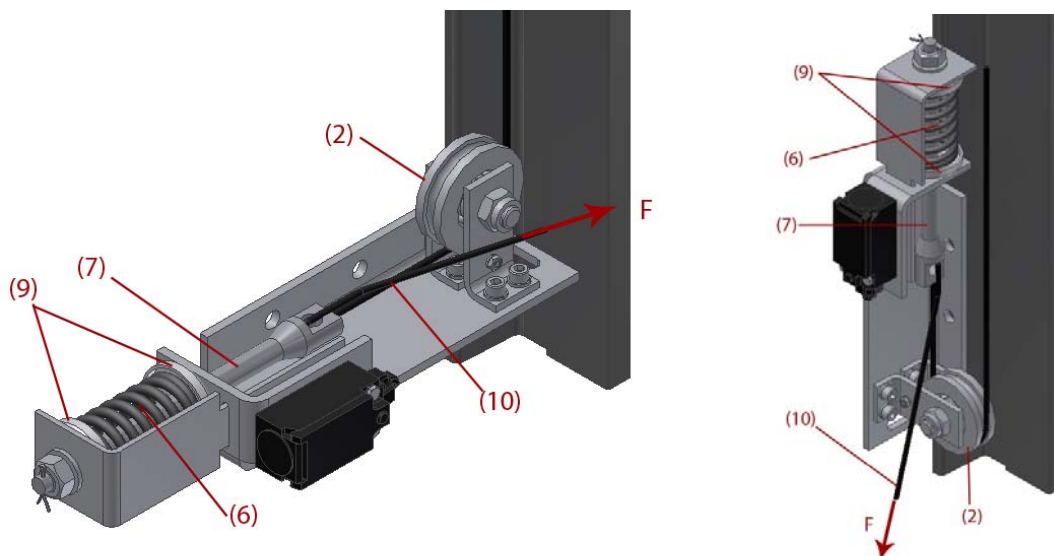

Figure 16: Lower tensioner installation
Thread the other end of the rope through the lower tensioner's rod (8). Apply a force **F** on the free end of the rope to pre-tension the system, as displayed in figure 16. It is important to check that the ends of the tensing spring (6) are correctly inserted into those of the spring guide (9) during pre-tensioning.